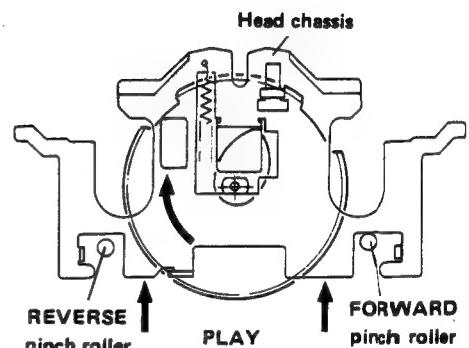

Figure 18
- When voltage is applied to the solenoid, the play arm is released by the stopper of the cam, and the cam gear is engaged with the flywheel gear and rotation starts. By the rotation of the cam gear, the head chassis is driven as shown in Fig. 18.